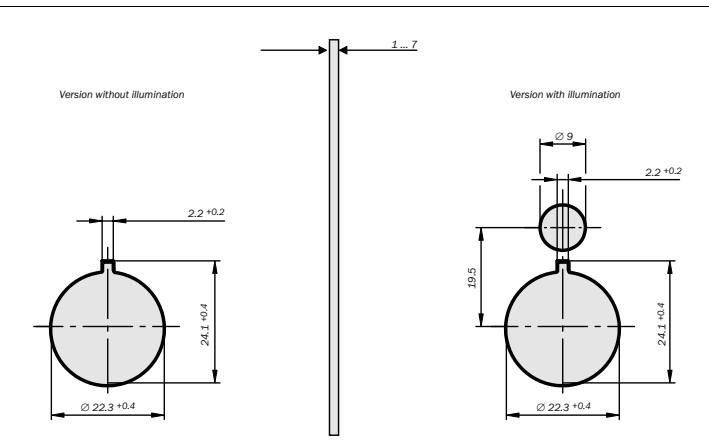

Fig. 1: Dimensional drawings of the mounting holes for the built-in versions (mm)
- Drill mounting holes in the mounting plate (see Fig. 1; use the correct dimensional drawing for the design).
- In the case of illuminated pushbuttons, the male connector must also be guided through the small drill hole in the mounting plate (see Fig. 1, right dimensional drawing) and connected to switching element X1/X2.